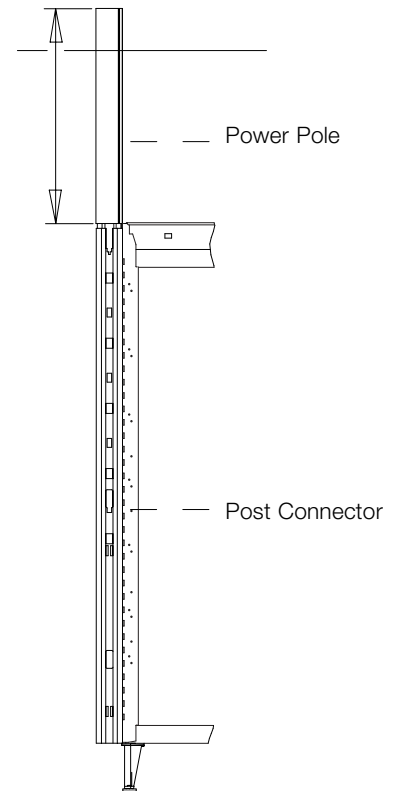

Fig. 5
6. Insert two bayonet connectors (included) into opposite corners of the post connector (**Fig. 5**)
7. Mount power pole atop post connector allowing spade connectors to engage power pole (**Fig. 5**)